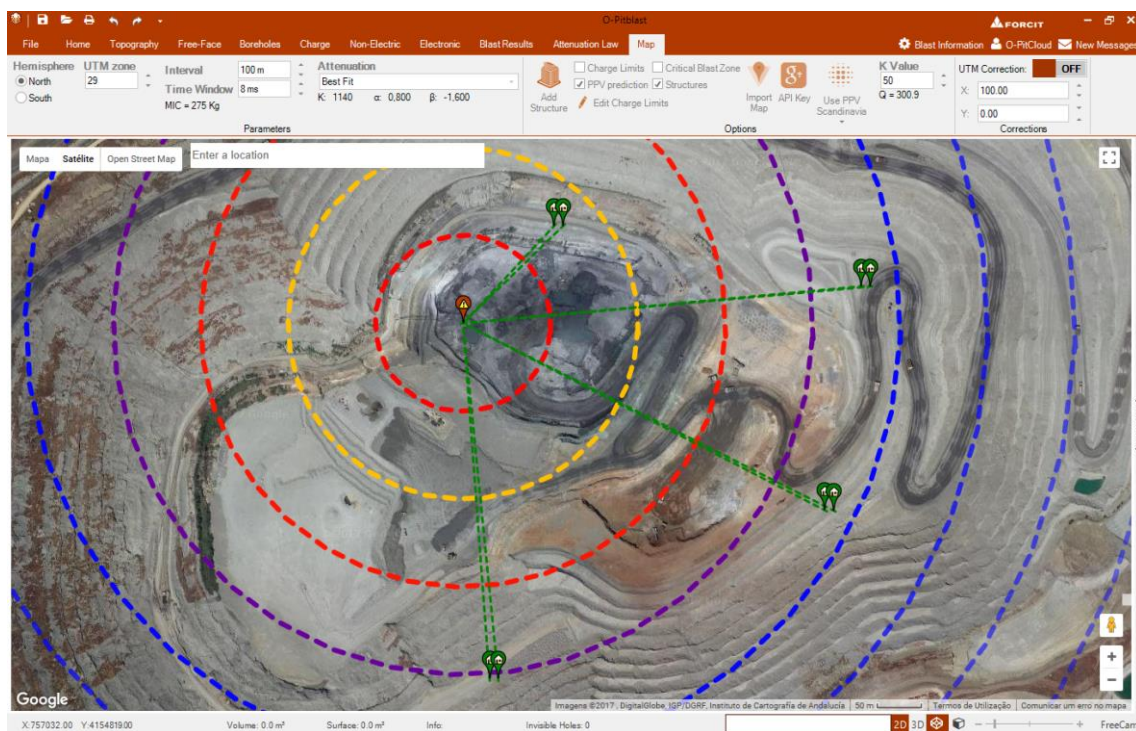

Fig. 359 – Creating new structures (10 meters aside)
- Change the position (by 10 meters): will create a new structure 10 meters aside of the other one - Fig. 359;